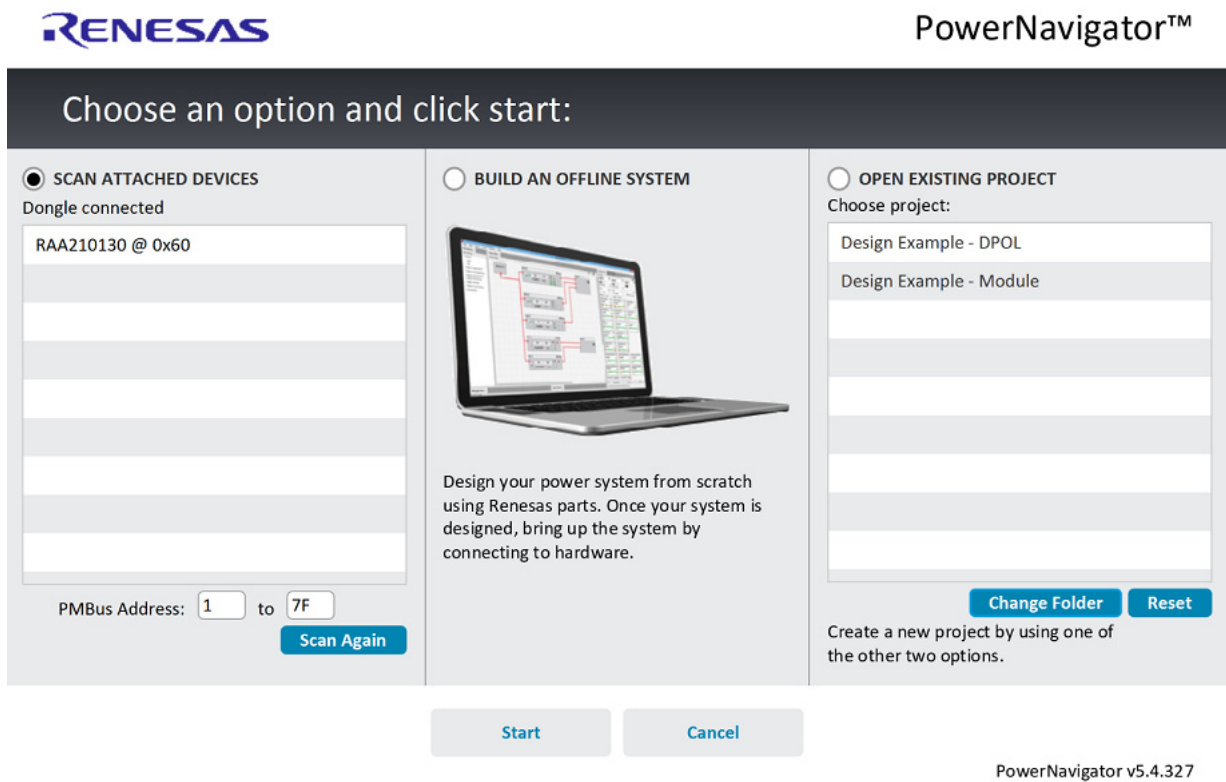

Figure 2. PowerNavigator Start Page.
8. Launch the PowerNavigator software. The PowerNavigator software interface is shown in Figure 2. The module RAA210130 part number and I2C address (0X60) appears under Scan Attached Devices section.